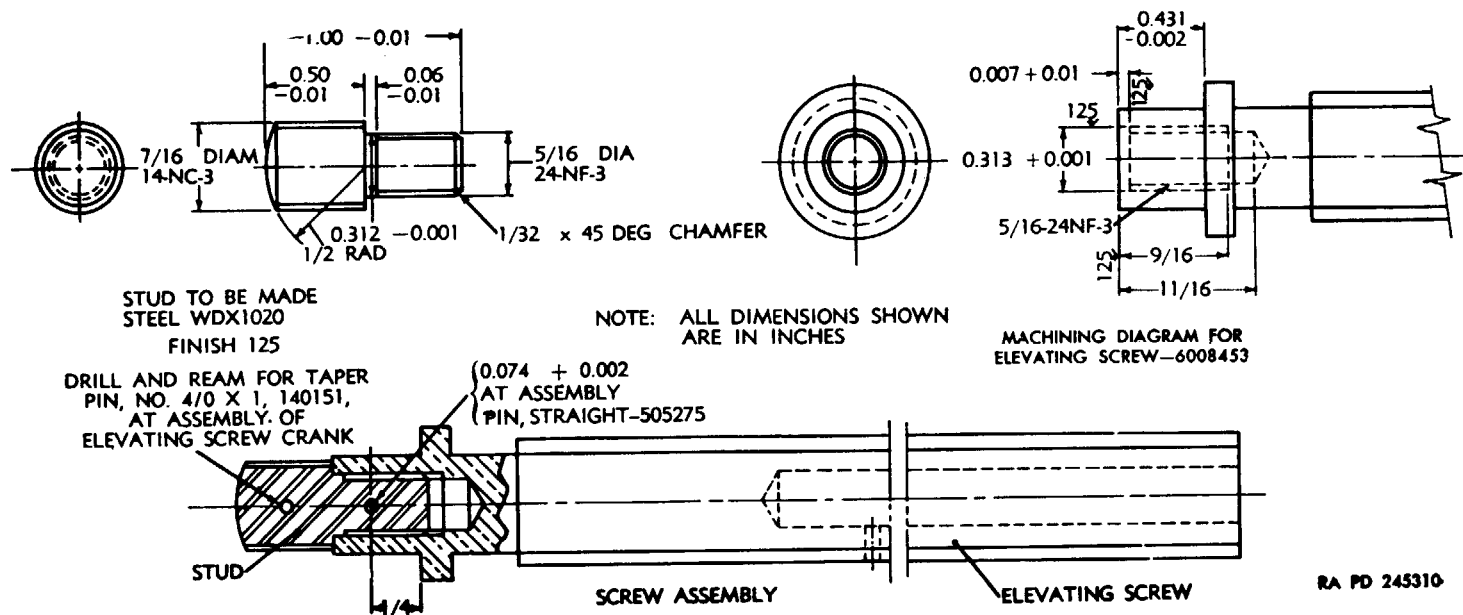

Figure 25. Repair of elevating screw 6008453.
- e.* Breakage of elevating screw near the crank can be corrected as outlined in (1) through (3) below.
- (1) Machine broken end and drill and tap (fig. 25).
- (2) Fabricate stud to given dimensions (fig. 25).
- (3) Assemble stud to screw and secure with straight pin (fig. 25).